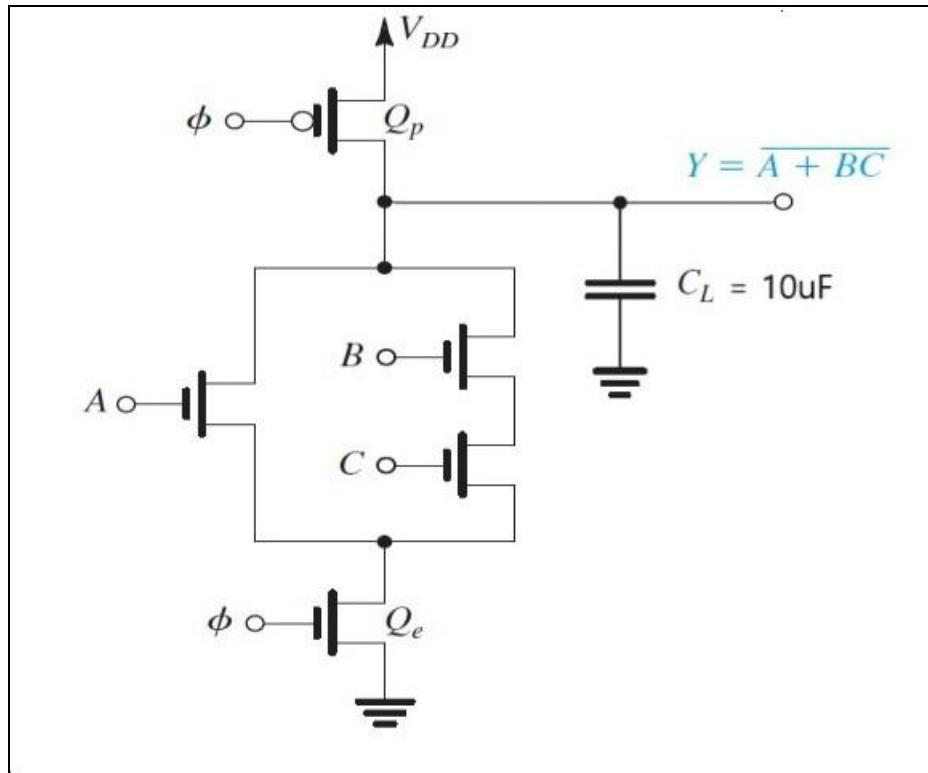

Figure 2: Realization of function  $\overline{Y} = \overline{A} + BC$
Figure 2 shows the circuit that realizes the function  $\overline{Y} = A + BC$ .
1. Implement the circuit shown in Figure 2. Provide +7V supply to the circuit.